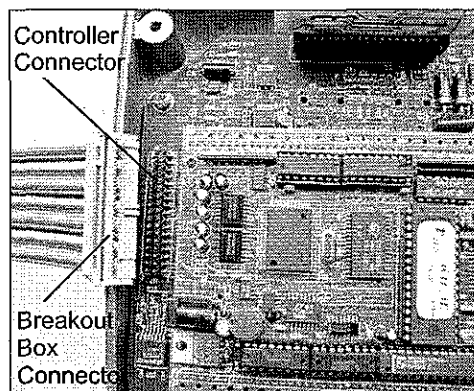

Figure 4-21: Connecting the Breakout Box
- a. Connect the breakout box's ribbon cable to the Controller PCB (see Figure 4-21).